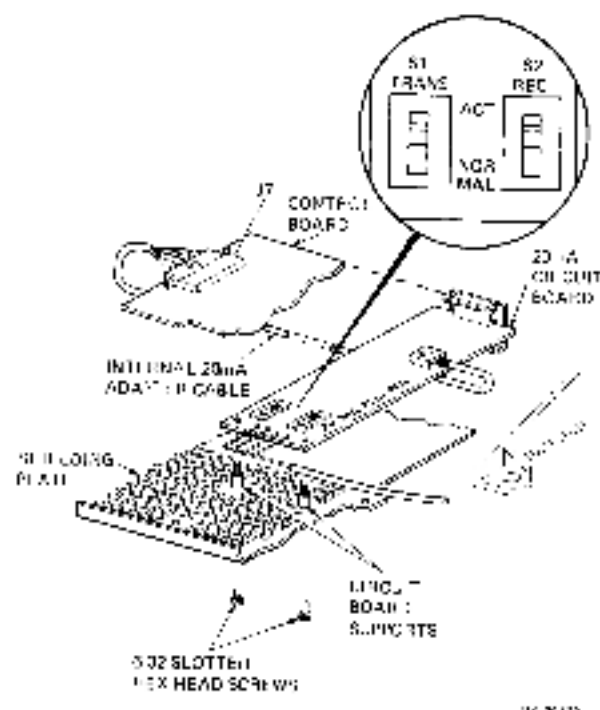

Figure 3-22 20 mA Circuit Board Installation
16. Secure the circuit board supports to the shielding plate with two (6-32) slotted hex-head screws (Figure 3-22).
17. Slide the rear edge of the current detector circuit board into the upper slot in the rear of the printer mechanism. Then press the board onto the circuit board supports (Figure 3-22).
18. Connect P1 of the internal 20 mA adapter cable to the current detector circuit board (Figure 3-22).
19. Slide the internal 20 mA adapter cable under the logic board and connect to J7 on the logic board (Figure 3-22).
20. Set the TRANS and REC switches to the NORMAL position (Figure 3-22). If the terminal is to provide current to either the receive or transmit line set the corresponding switch to A.C.T. If these switches are not set correctly, the terminal will not send and receive characters properly.